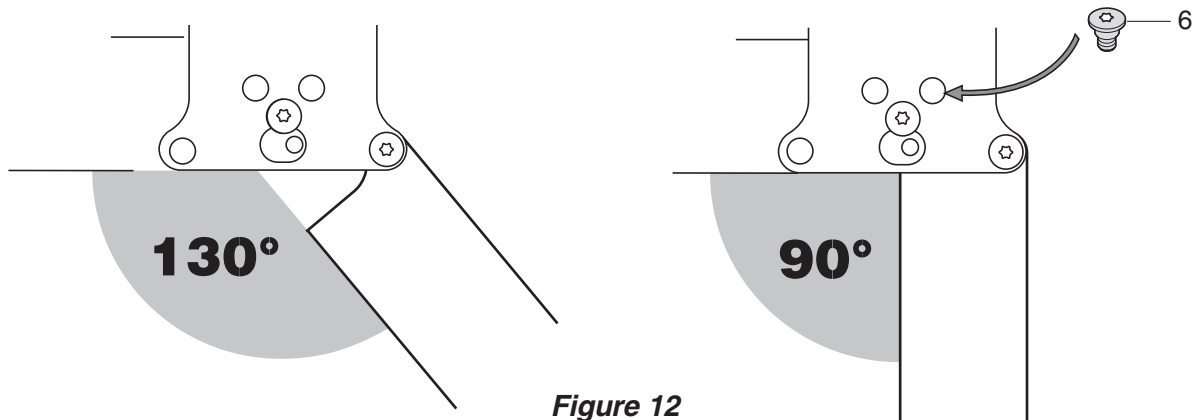

Figure 12
Door Opening Angle - Figure 12
- Insert attached screw (6) in the **upper** hinge as shown in **Figure 12**.